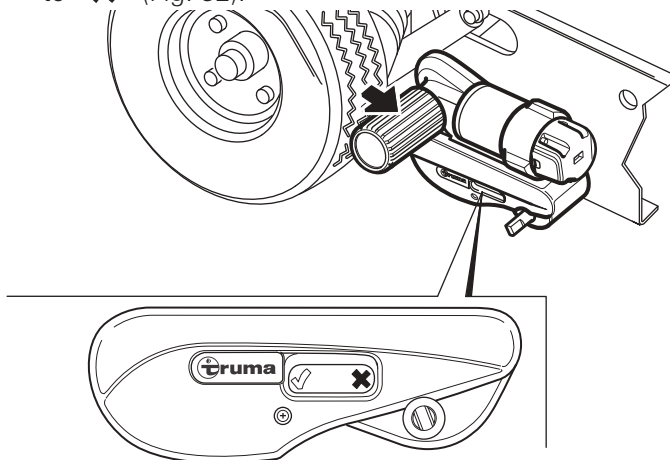

Fig. 32
- Disengagement was successful when the status display on the housing of the shunting system points to **X** (Fig. 32).